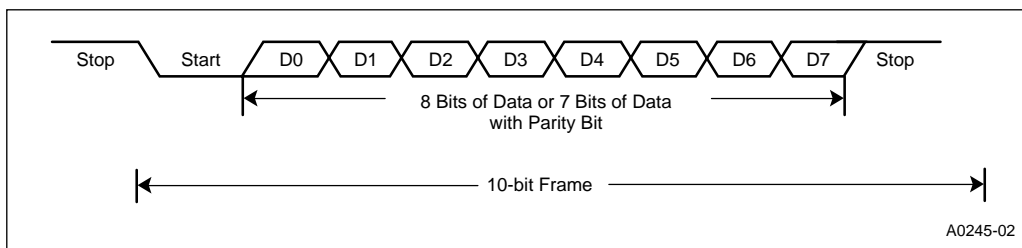

Figure 7-4. Serial Port Frames for Mode 1
Mode 1 is the standard asynchronous communications mode. The data frame used in this mode (Figure 7-4) consists of ten bits: a start bit (0), eight data bits (LSB first), and a stop bit (1). If parity is enabled, a parity bit is sent instead of the eighth data bit, and parity is checked on reception.